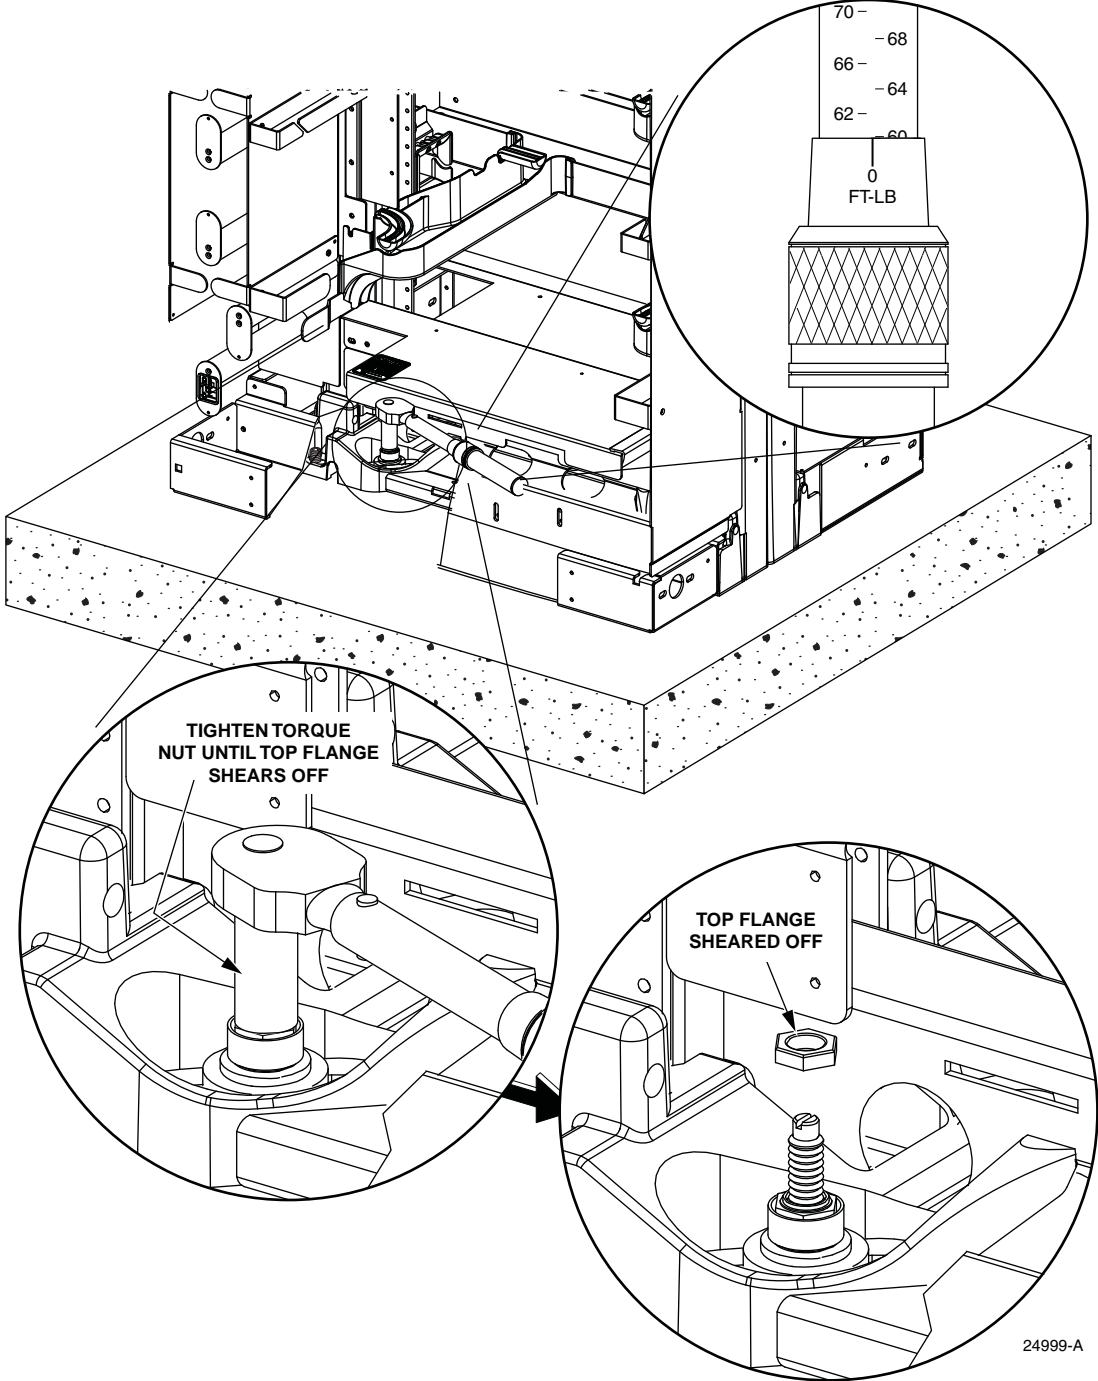

Figure 14. Tightening Torque Nut
11. Tighten the torque nut until the top flange shears off (in four places) (Figure 14).